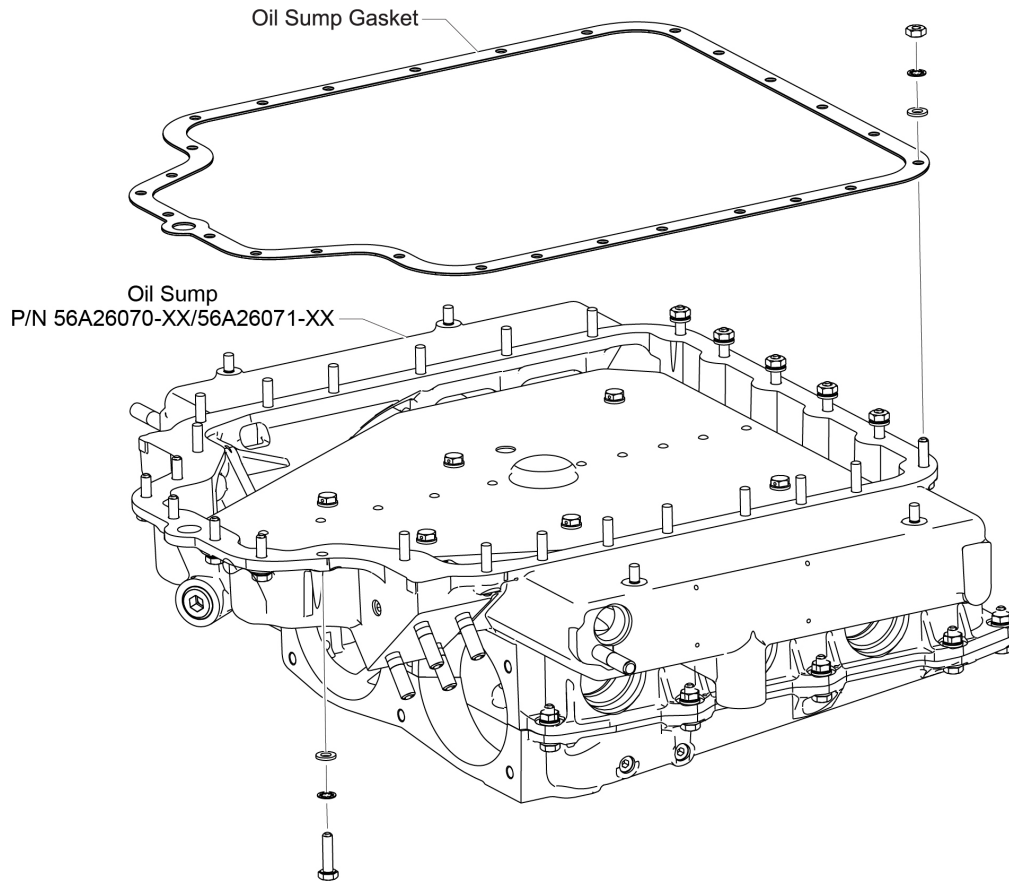

Figure 5
9. Install a new oil sump gasket on the new oil sump *56A26070-XX / 56A26071-XX (Figure 5).
10. Install the new oil sump and induction housing P/N 56A26070-XX / 56A26071-XX (Figure 5) with the oil sump fastening hardware (bolt, nut, washer and new lock washer).